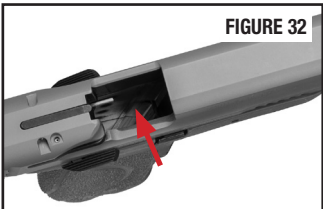

FIGURE 32
- Look into the chamber and down through the magazine well. Verify that no ammunition remains in the pistol (FIGURE 32).